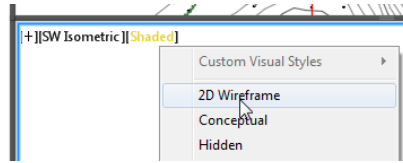

FIGURE 4.4 Changing the visual style to 2D Wireframe in the lower-right viewport
8. In the lower-right viewport, click Shaded and select 2D Wireframe, as shown in Figure 4.4.